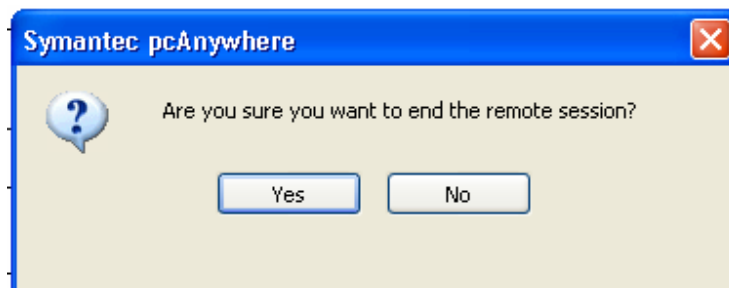

Figure 50: End Remote Control Session
9. At the end of your session, close the screen as you would with a local system; then exit from pcAnywhere by clicking the rightmost icon on the pcAnywhere menu, as shown in Figure 50. This disconnects the phone line connection and shuts down the link.